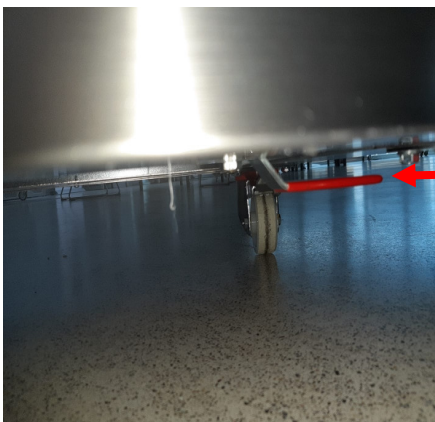

fig. 6
2. Open the drain handle under the machine. **(see fig. 6)**